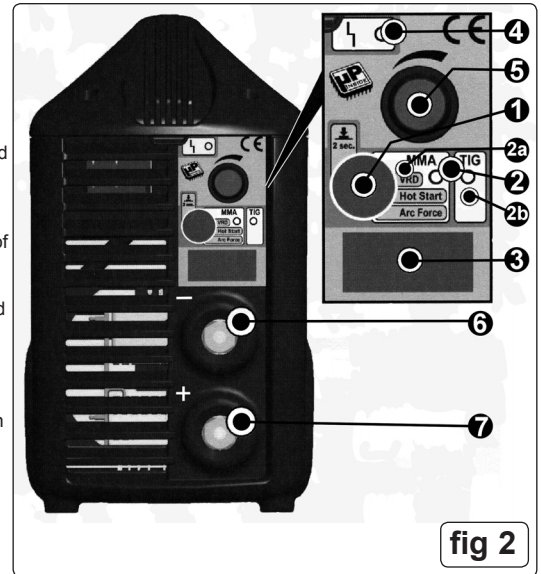

fig 2
#### 3.1 FRONT PANEL LAYOUT (refer to Figure 2).
“TIG” TORCH CABLE. Dinse plug at the end of the torch cable will be connected to the **negative socket (-)** on the front panel (see fig.2 item 6).
WORK CLAMP CABLE. Dinse plug at the end of the clamp cable will be connected to the **positive socket (+)** on front panel (see fig.2 item 7).
4.4.1 ELECTRODE HOLDER. Plug at the end of electrode cable **will normally (\*)** be connected to the **positive socket (+)** on the front panel (see fig.2 item 7).
4.4.2 WORK CLAMP CABLE. Plug at the end of the clamp cable **will normally (\*)** be connected to the **negative socket (-)** on the front panel (see fig.2 item 6).